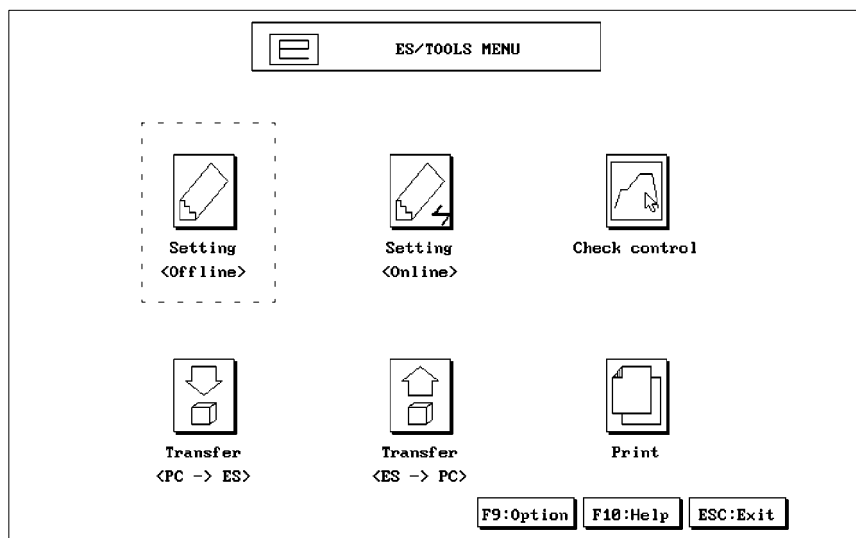

Figure 1
- a. From the ES/TOOLS menu (Figure 1), click on the **F9: Option** button. Then select the **Select system parameters** button. A Communications Menu appears.
- a. Select the **Setting <Offline>** icon (see figure 1) by double-clicking on it.